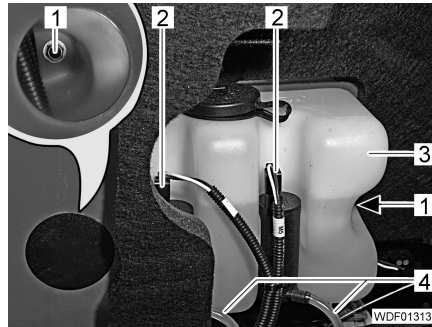

Fig. 423 Windshield washer container
- In each case, detach 1 plug (Fig. 423,2) from each of the washer water pumps.
- In each case, unplug 1 transparent hose (Fig. 423,4) from the two washer water pumps and close them off.
- Unscrew the 2 screws (Fig. 423,1) and remove the windshield washer container (Fig. 423,3).
- Put the windshield washer container (Fig. 423,3) into position.
- Screw in 2 screws (Fig. 423,1) with washers and tighten.
- In each case, connect 1 transparent hose (Fig. 423,4) to the two washer water pumps.
- Attach 1 connector (Fig. 423,2) to the two washer water pumps.